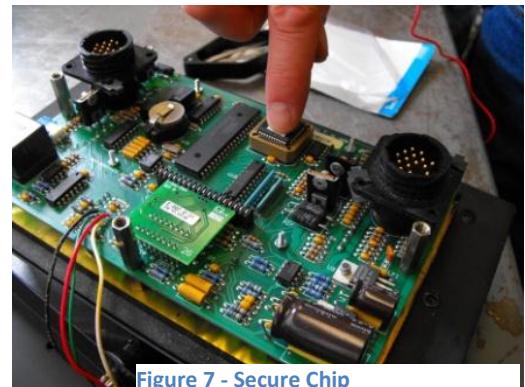

Figure 7 - Secure Chip
9. Press down on top of the chip to seat it. You will be able to feel the chip gently snap into place. (Figure 7).